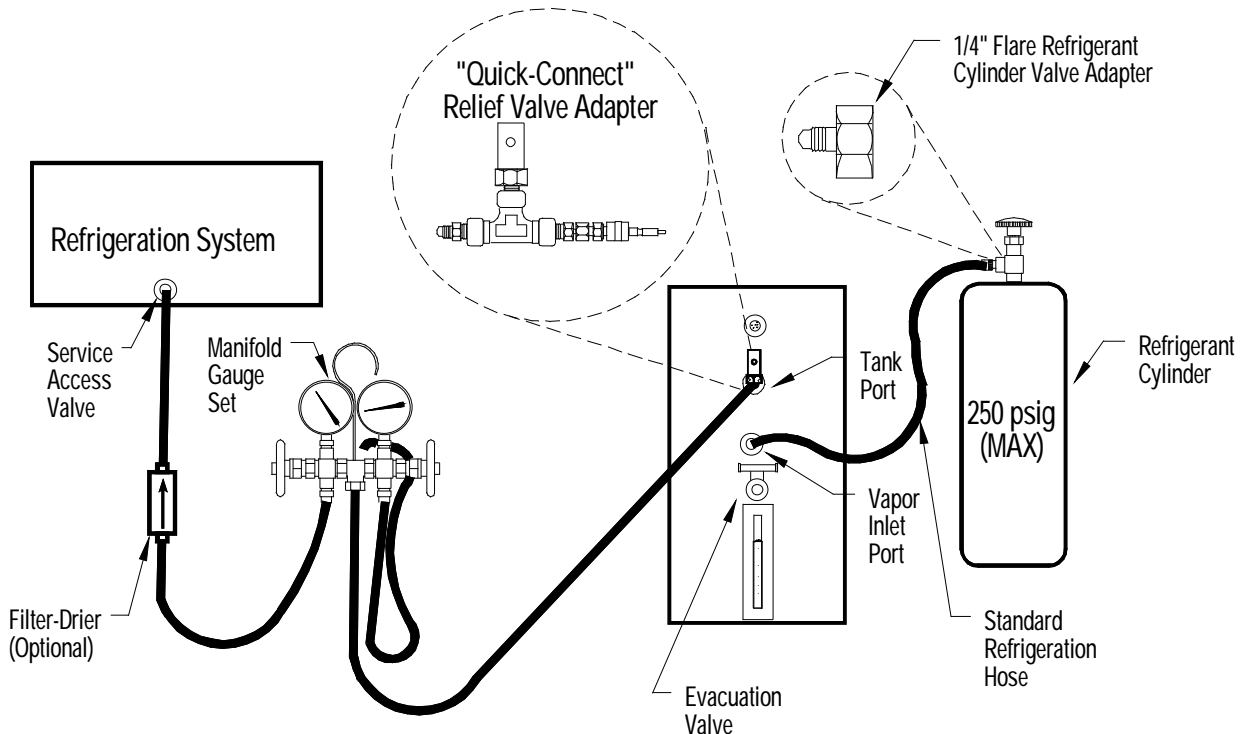

FIGURE 3. Charging Mode Hook-Up
2. Once the pressure between the system and the recovery cylinder has equalized, proceed as follows (see Figure 3):